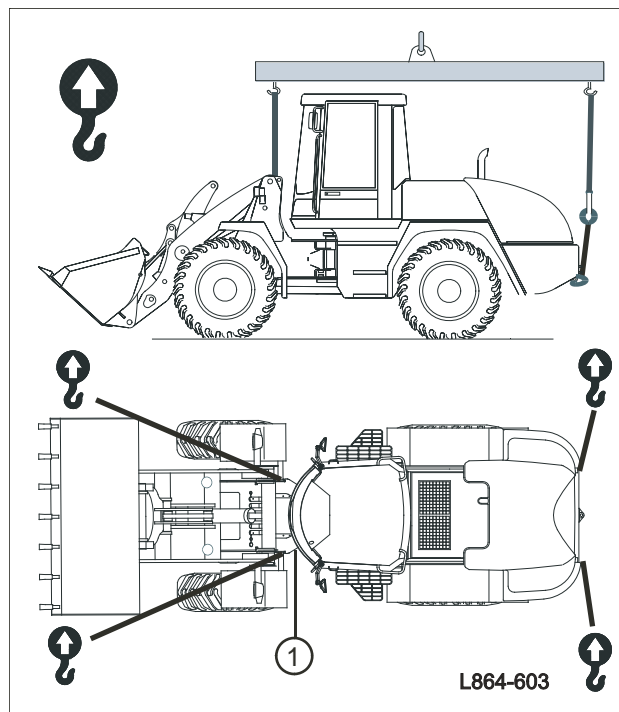

Fig. 33 Crane suspension
- Attach the loader to the hoisting appliance at the specified, marked points (Fig. 33) in the correct manner.